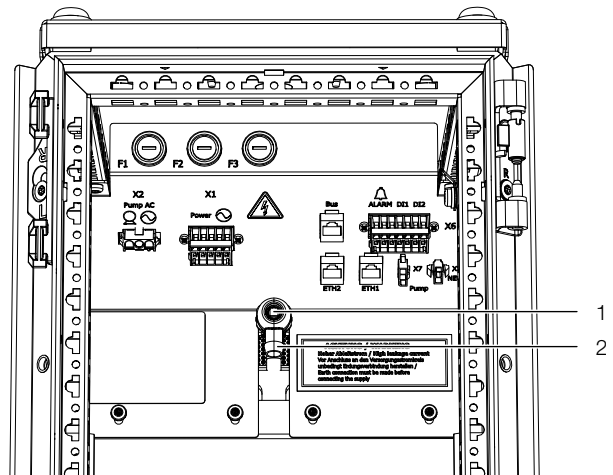

Fig. 92: Bleeding the air from the heat exchanger
- Connect the drainage hose, included with the accessories, on the top at the vent valve on the plug connector (fig. 92, item 2).
- Open the vent valve (fig. 92, item 1) with the square key supplied.